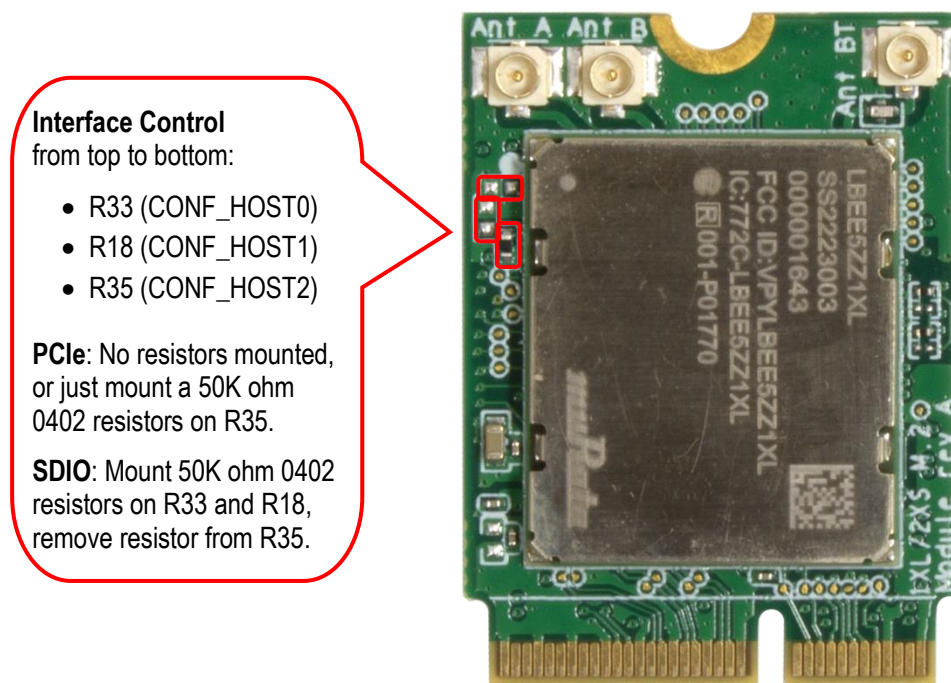

Figure 4 – 1XL / 2XS M.2 Module Wi-Fi Interface Control
**Note** that it is not enough to connect a 3.3V supply to pin 64. Resistor R41 must be mounted and resistor R44 must be removed. See Figure 4 for location of these resistors.